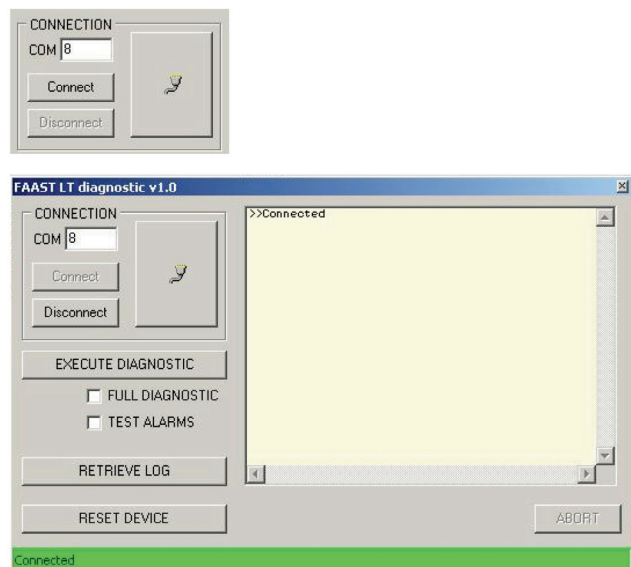

Figure 2.
- Insert PORT NUMBER found into COM box. Click on CONNECT, as shown in Figure 2. below